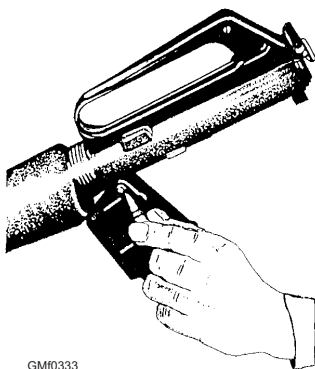
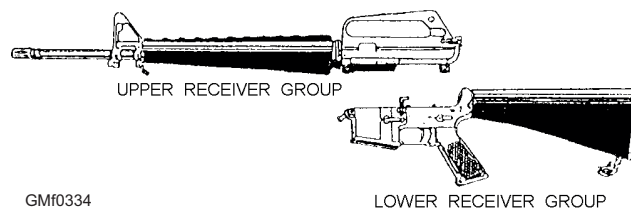

Figure 3-33.—Pressing out the receiver pivot pin.
Figure 3-34.—Upper and lower receiver groups.
3. Again using a punch or the end of a cleaning rod, press the receiver pivot pin (fig. 3-33). Separate the upper and lower receiver groups (fig. 3-34) and place the lower receiver group on the table.